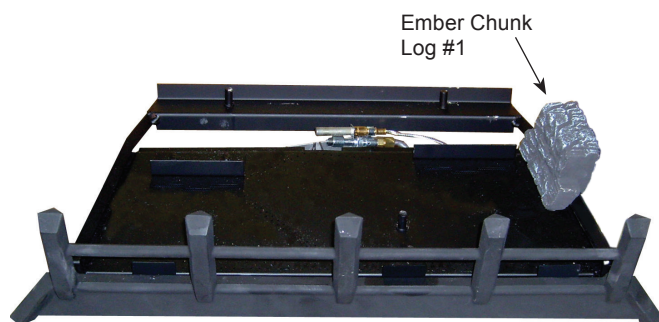

Figure 27. Place Ember Chunk Log #1
1. Place the #1 log (the "chunk") on the grate bar right side of the burner adjacent to the controls. Figure 27.